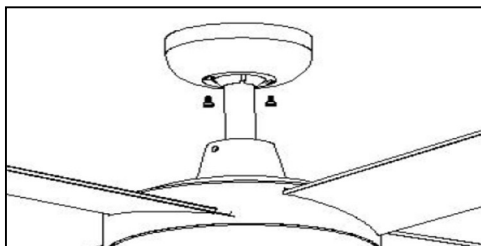

Fig. 12
- Cover the mounting bracket with the canopy. Ensure all electrical wiring is tucked inside the canopy and that the wires are not damaged during this step. Secure the canopy to the hanger bracket using the screws provided. (Fig. 12)